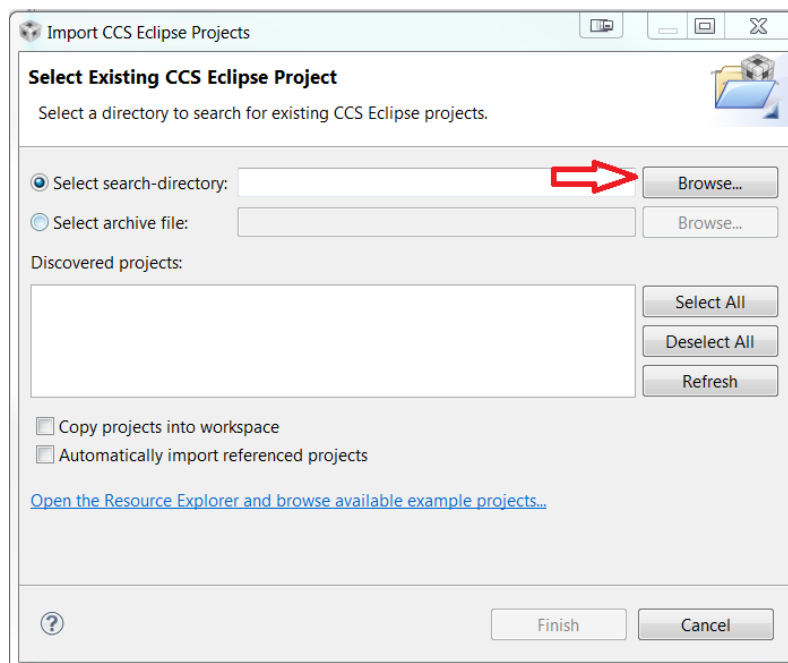

Figure 6: Importing the Template
- 3) In the program menu, [**Left-Click**] on **Project**, and [**Left-Click**] on **Import Existing CCS Eclipse Project**. Even though we are converting a CCSv3.3 project, we do not want to **Import an existing CCSv3.3 project**. The template has been created in CCSv5.2. As a result we will need to choose the former. This will bring up a menu as shown in Figure 6. The **Import an existing CCSv3.3 project** function of CCSv5.2 does not provide optimal results when used with UCD3138 programs.